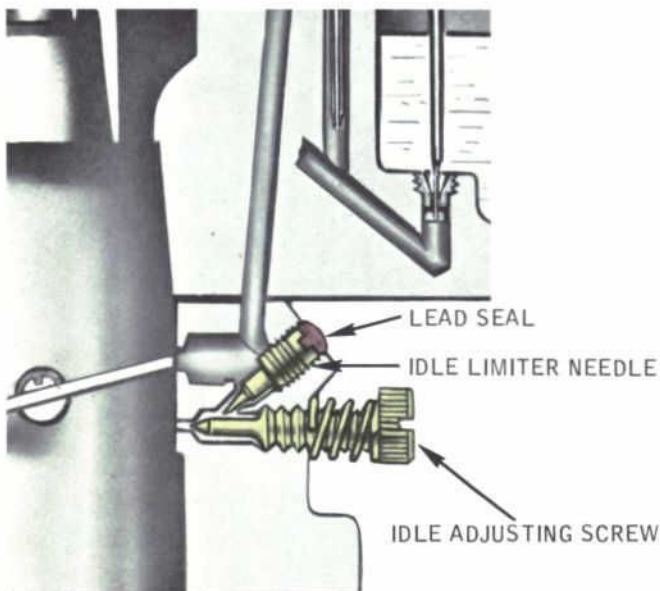

Fig. 35 — Idle Limiter, Seal and Idle Adjusting Screw — Carter 1-V Carburetor
1. Remove the lead seal covering the idle limiting needle in the throttle body (Fig. 35) by carefully picking it out with a sharp-pointed tool.